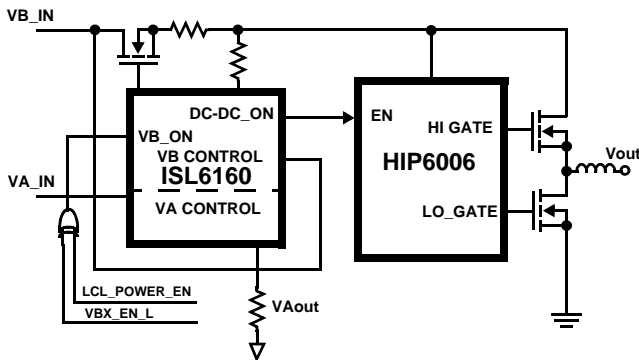
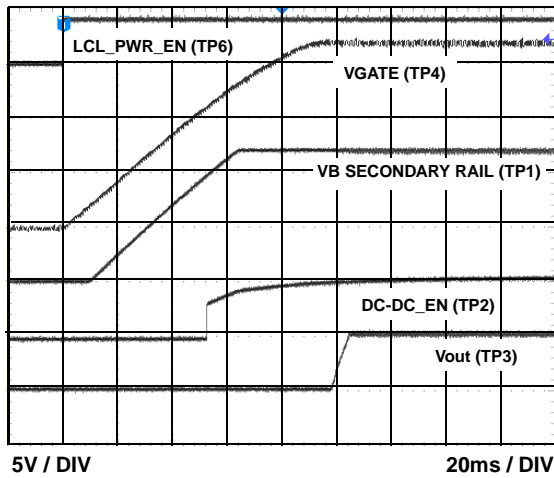

FIGURE 2. SIMPLIFIED ISL6160EVAL2 BLOCK DIAGRAM
FIGURE 19. ISL6160EVAL2 Vout TURN-ON
On the IM the ISL6160 is necessarily paired with a DC-DC converter to convert 12V to a lower usable voltage for the application circuitry. Figure 2 shows a block diagram of a complete IM power sequencer and power supply using the ISL6160 and a HIP6006, single output PWM DC-DC converter.
Available from Intersil is the ISL6160EVAL2. The ISL6160EVAL2 is a complete InfiniBand Class 1 (non isolated) power topology evaluation platform consisting of the ISL6160 and the HIP6006 single output PWM controller. See Figure 2 for a simplified block diagram of the ISL6160EVAL2 platform. This evaluation platform allows the Infiniband Module (IM) power supply designer to evaluate the concept of this design and apply it to a specific IM power requirement. The evaluation platform is configured for 5V  $V_{out}$  and 3A  $I_{out}$  capability and exhibits a 92% total efficiency. See Figures 19 and 20 for ISL6160EVAL2 turn-on and turn-off waveforms.